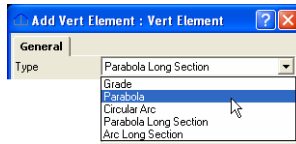

Figure 9-59. To Add a Parabola
1. To add a parabola, click **Add Vert Element** and select *Parabola* in the drop-down list of the *Type* field on the **Add Vert Element** dialog box (Figure 9-59).